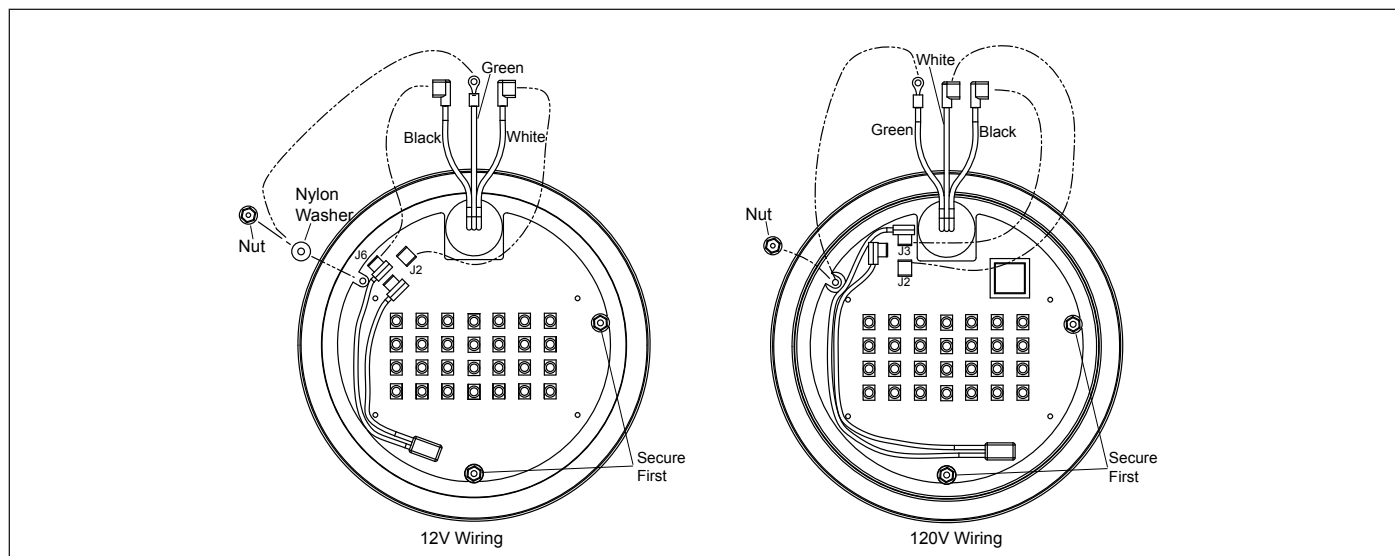

Figure 3. Large Light Engine (PCB) Replacement and Wiring
1. Remove three (3) nuts and washers.
4. Place new light engine into the fixture with the orientation shown in Figure 3.
5. Secure the new light engine (PCB) with two (2) nylon washers and two (2) nuts. Torque to 12 in-lbs.